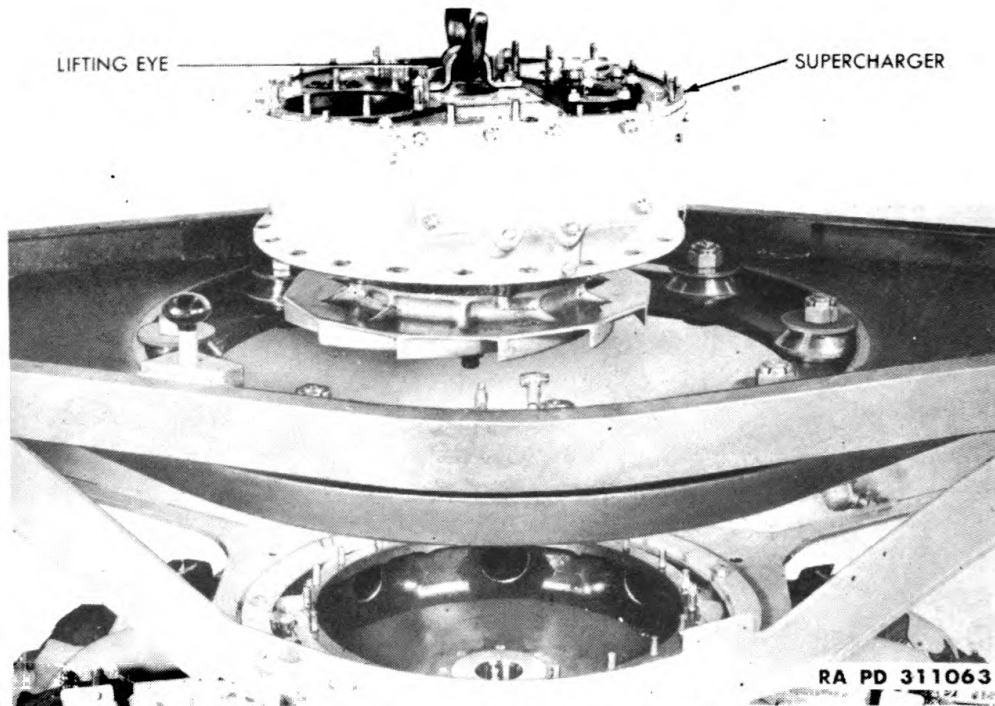

Figure 21 — Removing Supercharger, Using Lifting Eye 5A2207
p. **Remove Supercharger** (fig. 21). Rotate engine stand so that supercharger is in the upward position. Remove nuts securing supercharger rear housing to supercharger front housing. Install lifting eye (5A2207) to supercharger rear cover and lift supercharger from engine. **CAUTION:** *Insure that supercharger is lifted straight off to avoid damage of seal rings.* Remove supercharger front housing and crankcase rear main section by removing bolts that secure front supercharger housing to rear engine support.